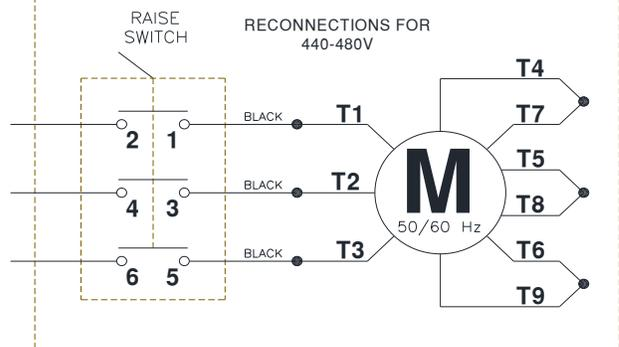

Fig. 13 – Electrical Wiring Diagram
- 38) Refer to **Fig 13 Wiring Diagram** for all steps under this heading.